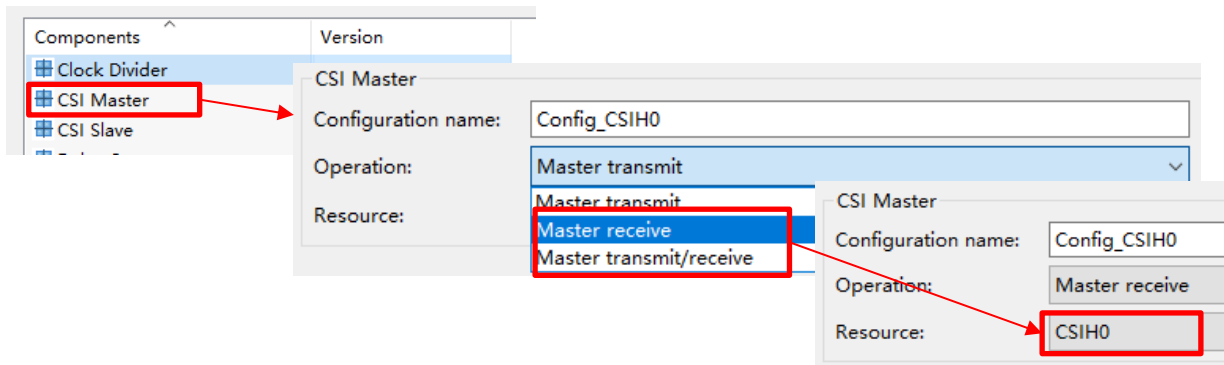

Figure 2-1 Setting of CSI Master operation mode (using CSIH0 as an example)
When using CSI Master component with operation mode of “Master receive” and “Master transmit/receive” (refer to figure 2-1), selecting the master supplies chip select (CS) signal to the slaves (refer to figure 2-2), master can only receive the first data correctly. From the second data, master fails to receive.